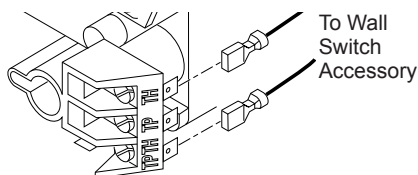

Figure 44 - Connecting Wall Switch to Control Valve
1. Connect one terminal of 25 ft. wire for wall switch to TPTH terminal on valve. Connect remaining wire terminal to TH terminal on valve. Make sure wire terminals are in positions on unit as pictured in Figure 44. If wires are not connected as shown switch will not work.